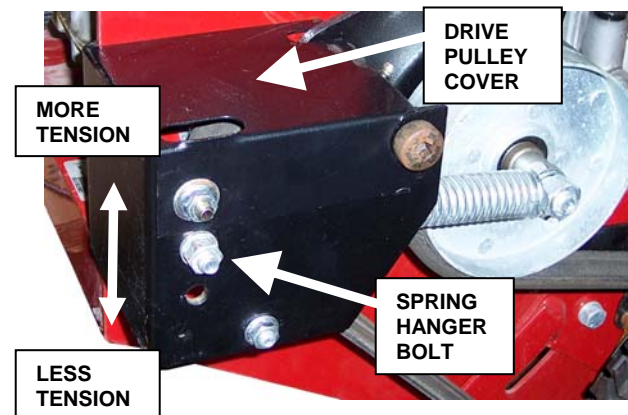

FIGURE 6.3
3. Move Spring Hanger Bolt up one hole in Traction Idler Support Bracket to increase spring tension. See Figure 6.3. NOTE: Replace existing bolt securing Drive Pulley Cover with Spring Hanger Bolt.